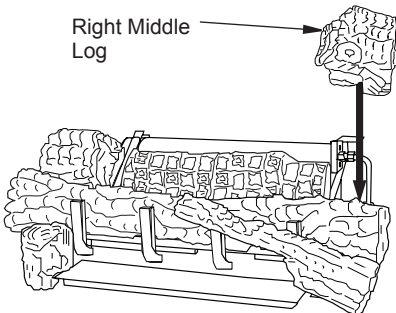

Figure 43 - Installing Right Middle Log
7. The right middle log has a groove on the bottom to sit on the chassis and has to sit on the tab on the back of the right front. The right middle log should have a recess area that fits around the ramp log as shown in Figure 43.